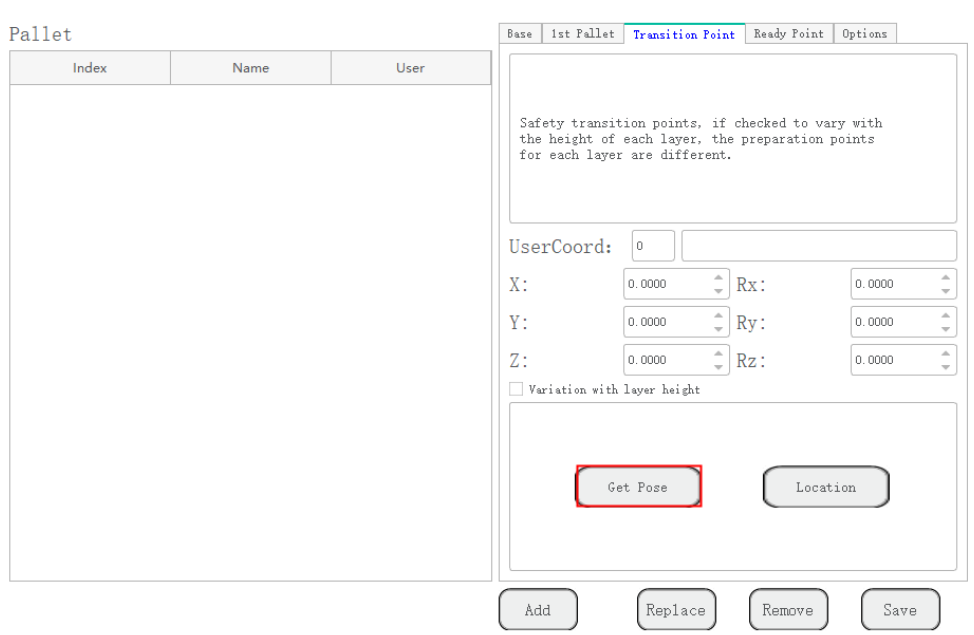

Figure 3.29 Teach the transition point
Step 4 Jog the robot to the transition point and click **Get Pose** on the **Transition Point** tab, as shown in Figure 3.29.